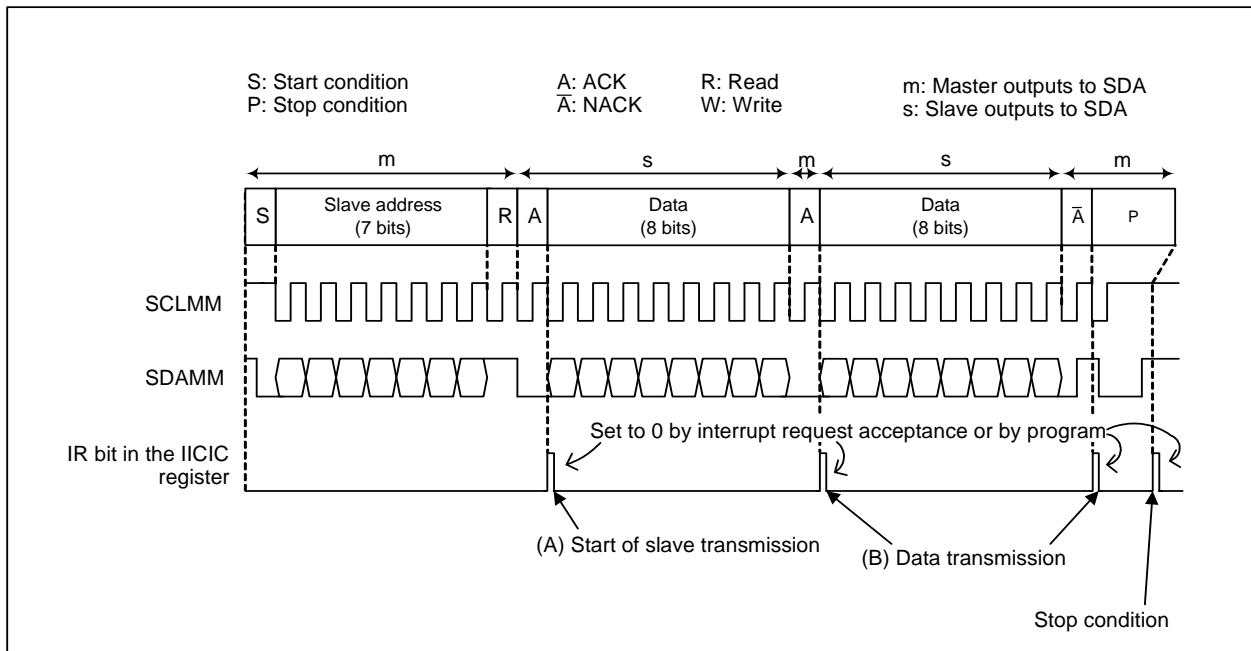

Figure 25.20 Example of Slave Transmission
(1) Read the received data from the S00 register
(2) Set the ACKBIT bit in the S20 register to 1 (no ACK presents) because the data is the last one.
(3) Write a dummy data to the S00 register.
The slave transmission is described in this section. The initial settings described in 25.3.10.1 "Initial Setting" are assumed to be completed. Figure 25.20 shows the example of slave transmission. The following programs (A) to (B) are executed at the (A) and (B) in Figure 25.20, respectively.